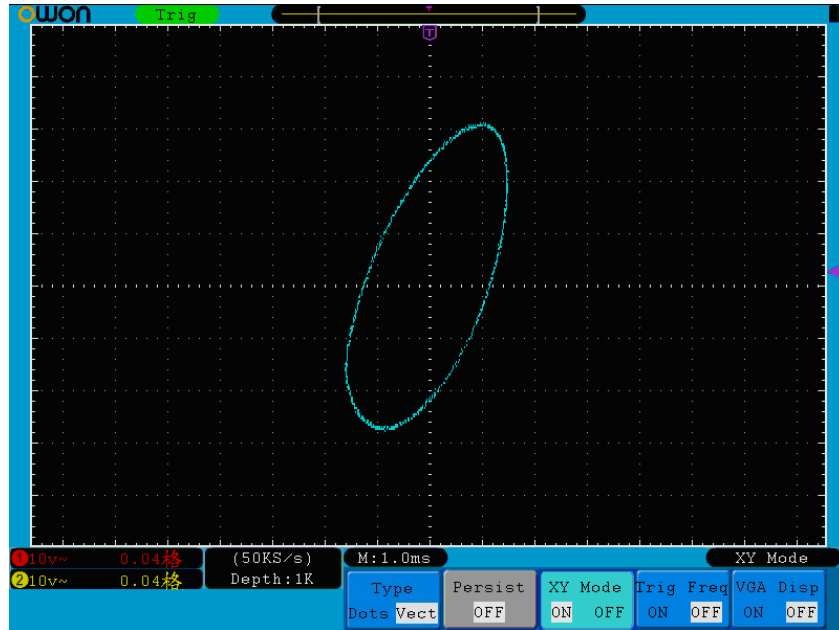

Figure 5-32 XY Display Mode
2. Press the **H3** menu selection button to set XY Mode **ON**. The display format is changed to be XY mode (see *Figure 5-32*).